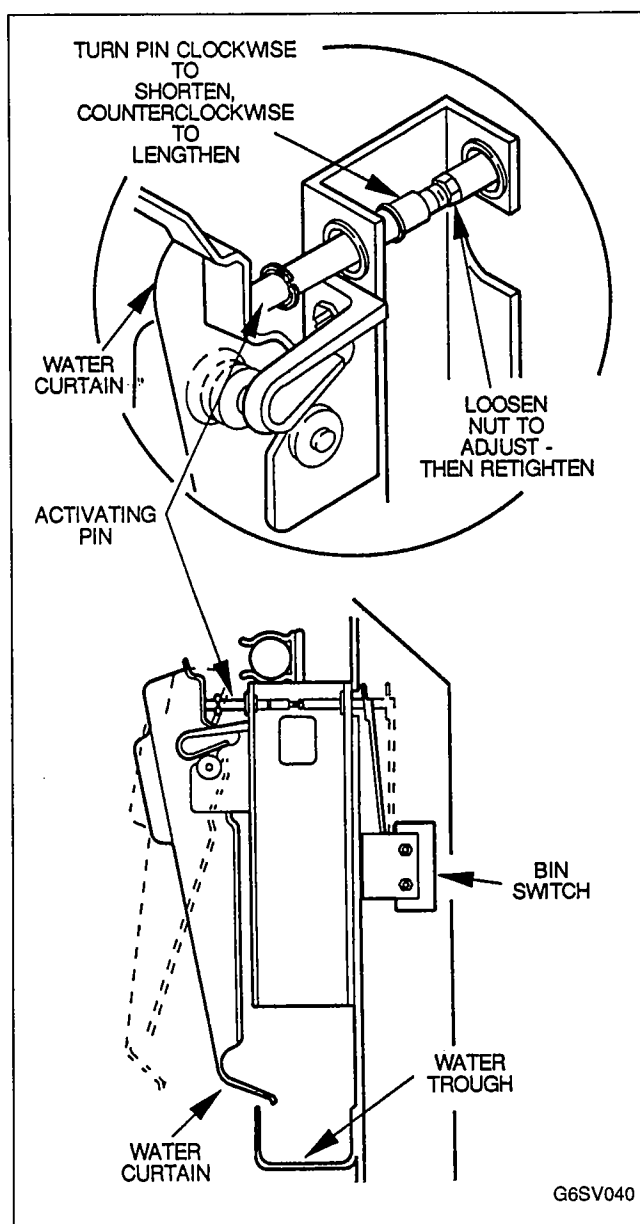

FIGURE 25. BIN SWITCH ACTIVATING
1. Pull water curtain away from evaporator until ice machine shuts off, Figure 25.
4. Bin switch pin adjustment (see Figure 25):